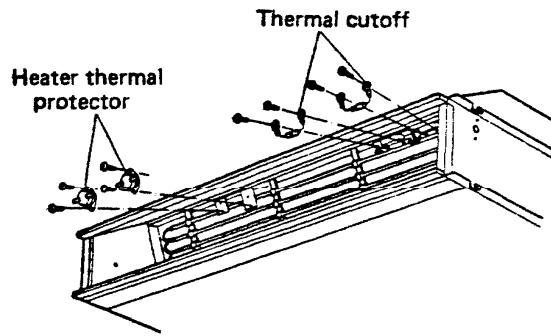

Fig. 16
- 5) The heater thermal protector and thermal cutoff can be checked and changed in this condition. Fig. 16